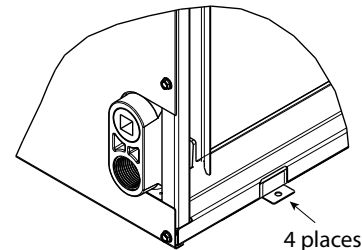

Fig. 12 – Horizontal Left Installation
1. Unbend the 4 tabs at the right side of the casing (Fig. 12).